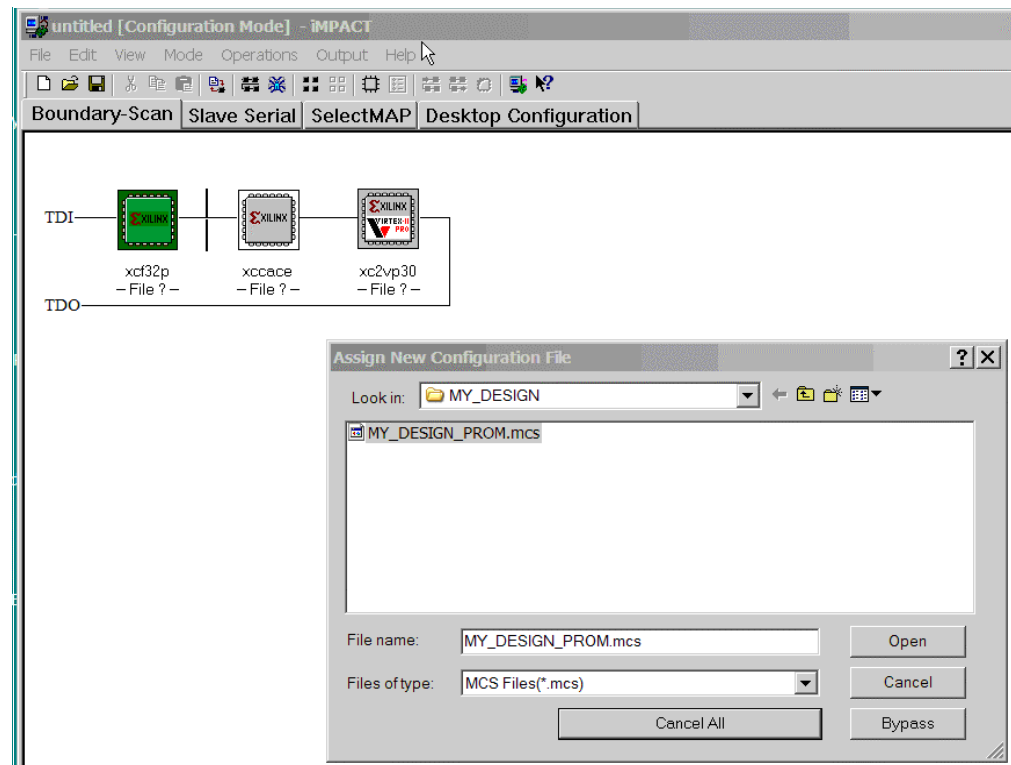

Figure B-12: Assigning the MCS File to the PROM
17. Select the MCS file that you created earlier as the configuration file for the XCF32P PROM and click Open, as shown in Figure B-12.